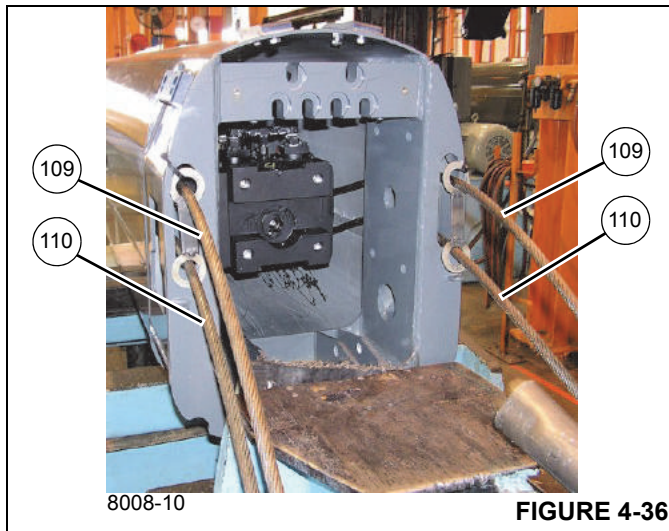

FIGURE 4-36
32. Working at the rear of tele 3 (4), pull the tele 4 forward extend cables (110) until they seat into the front sheaves (108).
33. Install the front guard weldment (112) (left and right sides) over the tele 4 extend cable (110), where the cable wraps around the sheave (108), and secure with the capscrew (113).
34. Install the grease fitting (106) into each of the four shafts (104). Add grease until the grease extrudes through the sheaves.
35. Route the tele 4 extend cables (109, 110) through the slotted holes in the rear of tele 3 (4), ensuring the 109 cables and 110 cables are oriented as shown in Figure 4-36.